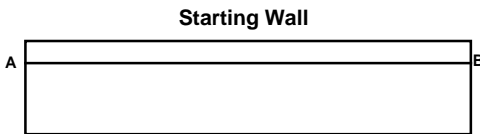

Figure 1
- D.** Establish the working line for a parallel installation by measuring an equal distance (A & B) from the starting wall at both ends. This distance should be a multiple of 9" plus 1/4" for an expansion space. An example would be 27 1/4". See Figure 1.